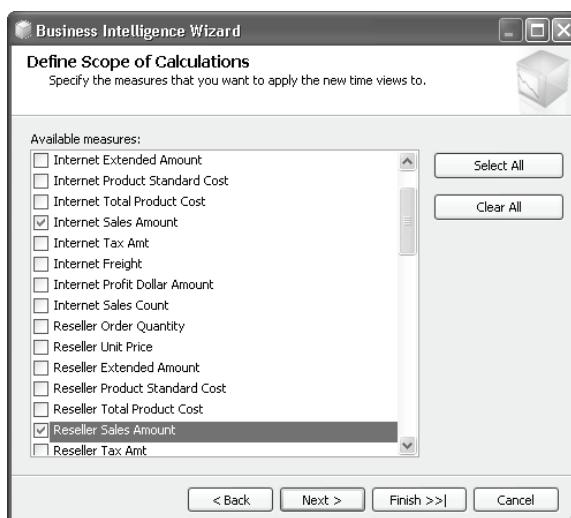

Figure 10.25 Select one or more measures that the time calculations will use.
5. In the Define Scope of Calculations step, you need to select which measures these calculations will use to produce the aggregated values. Select the *Internet Sales Amount* and *Reseller Sales Amount* measures (Figure 10.25).